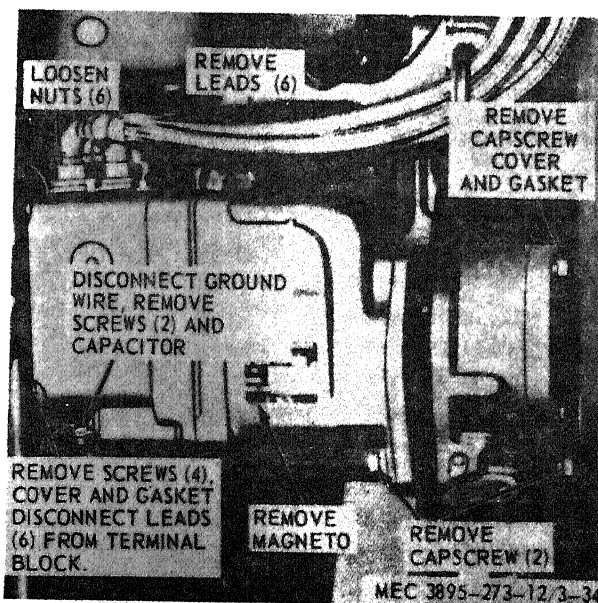

Figure 3-31. Magneto, removal and installation.
- (1) Disconnect the ground wire (fig. 3-31).
- (2) Remove the magneto from the engine as instructed on figure 3-31.
f. *Timing and Installation.* Align the timing marks as shown on figure 3-33. Install the magneto in reverse of the instructions on figure 3-31.